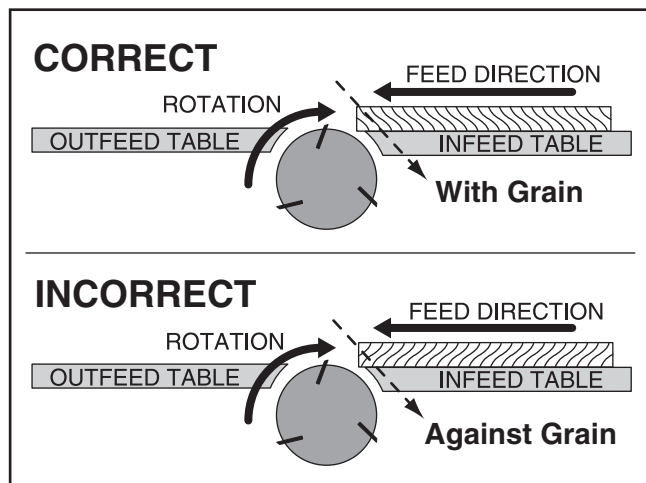

Figure 20. Proper grain alignment with the cutterhead.
- **Jointing and surface planing with the grain is safer for the operator and produces a better finish.** Cutting against the grain increases the likelihood of kickback and workpiece tear-out. DO NOT cut against the grain! Cutting with the grain is feeding the stock across the cutterhead so the grain points down and back, as viewed from the front edge of the stock (see **Figure 20**).